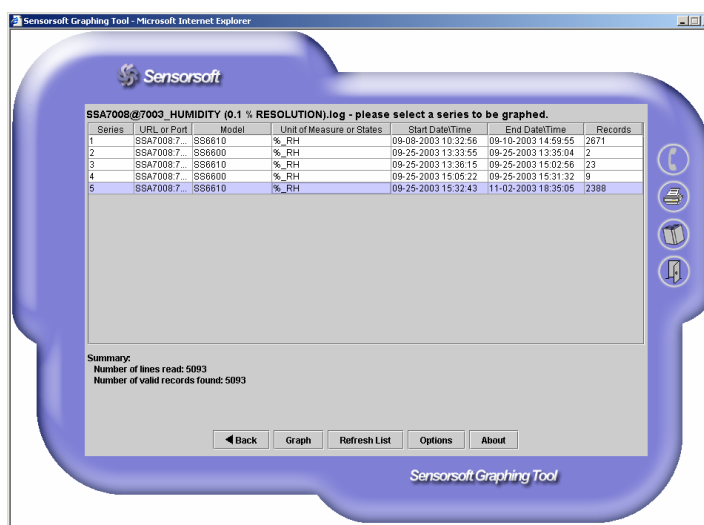

Figure 2
2. The applet will begin to download the data file from the web server and profile it. Once the profiling is complete, you will see a message at the top of the applet: "...please select a series to be graphed". Select a series to be graphed and click the Graph button (see Figure 2).